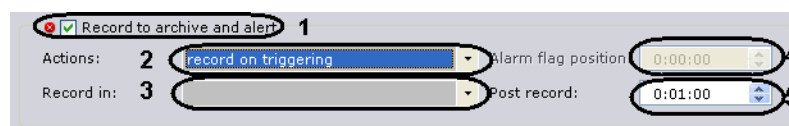

Fig. 6.4—27 Configuring recording to archive and initiation of an alert
2. From the **Actions** list (see Fig. 6.4—27, 2), select the desired action to be taken when the detector is triggered: